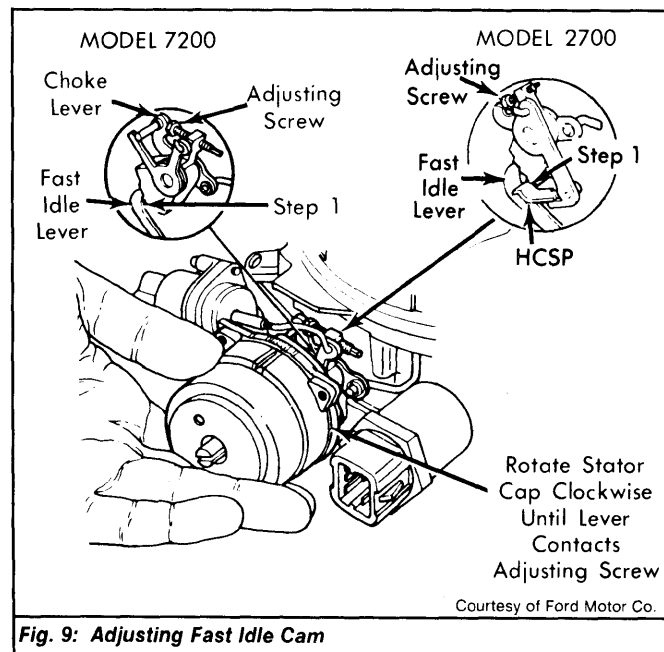

Fig. 9: Adjusting Fast Idle Cam
2) Position fast idle lever in specified step of fast idle cam. Highest step is considered first step. If carburetor is removed from vehicle, hold throttle closed with a rubber band to hold fast idle cam in position. See Fig. 9.